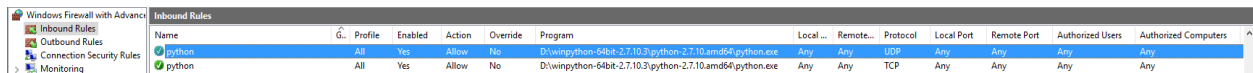

Figure 2 - Example entry in Windows Firewall with advanced security (tested on Windows 10) to allow the udp-discovery mechanism to work.
- iii. You might have an issue with your Windows Firewall configuration. You need to make sure to allow the python executable (python.exe inside "WinPython-64bit-2.7.10.3\python-2.7.10.amd64") to receive all UDP packets from any port (see figure 2). Make sure that this exception applies to all "profiles" to avoid having to determine which profile was applied to the network that you have created for the Red Pitaya.